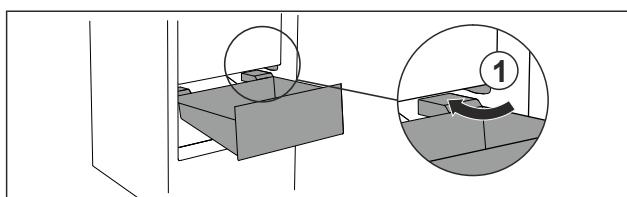

Fig. 68
- ▶ Guide drawer in at an angle around the stoppers Fig. 68 (1).